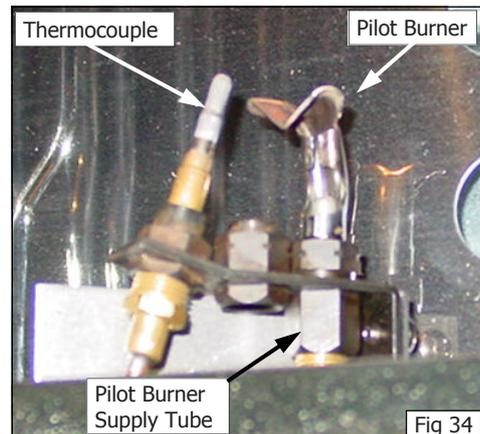

Fig 34
- b. From inside the oven, unscrew the hex nut holding the pilot supply tube to the rear of the pilot burner. (Refer to Fig 34).
- d. Replace the pilot injector with the correct sized pilot injector for the gas type being used (Refer to the 'Gas Specifications' table at the rear of this section) and re-connect the pilot supply tube to the rear of the pilot burner. (Refer to Fig 34).